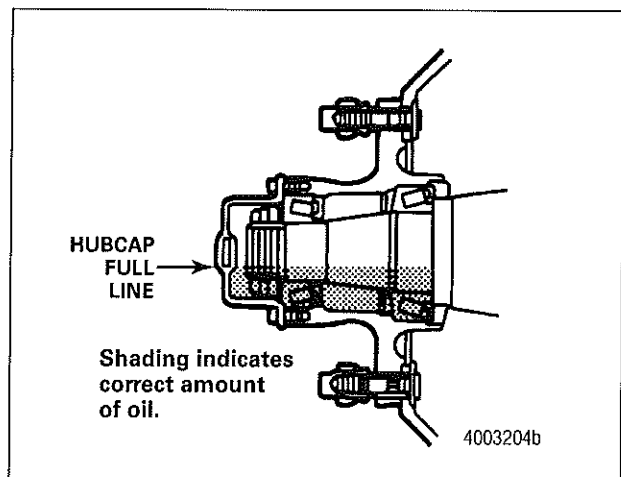

Figure 32
- Fill the wheel end with an approved oil to the hubcap full line. Figure 32.
- Install the hubcap fill plug and tighten to 15-20 lb-ft (20-27 N•m). ①